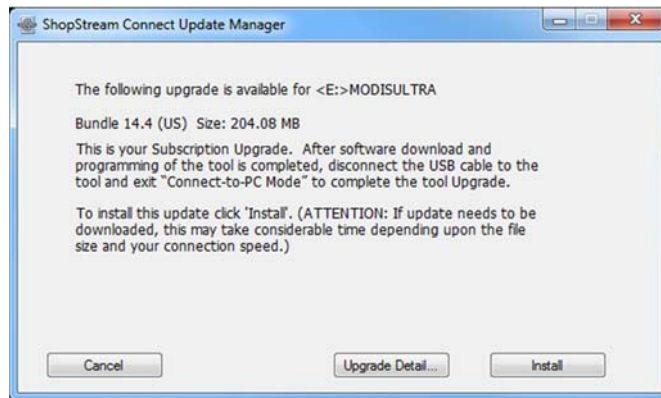

Figure 9-6
2. Read and follow the instructions displayed in the message box, then select **Install** to begin the download and installation (Figure 9-6).